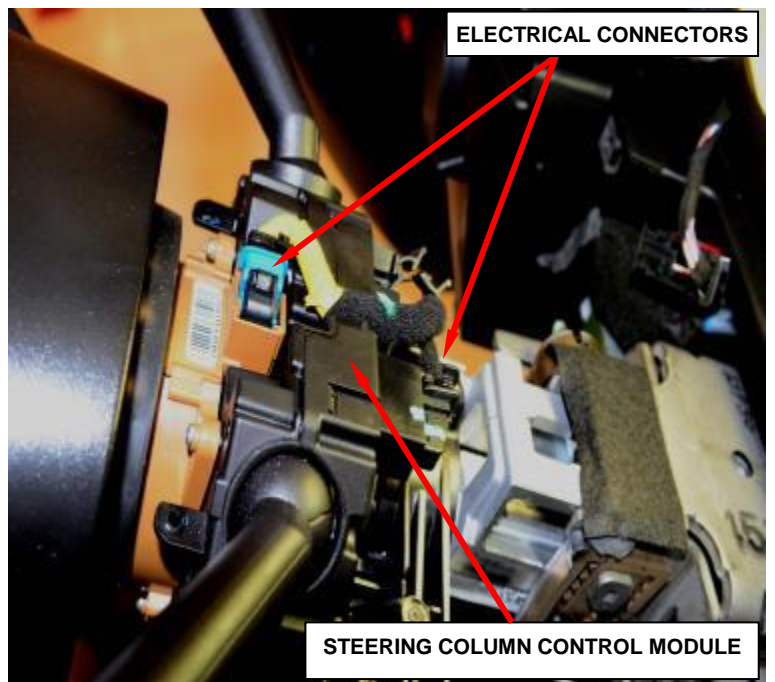

Figure 19 - Steering Column Control Module
f. Disconnect the two electrical connectors at the Steering Column Control Module (SCCM) (Figure 19).